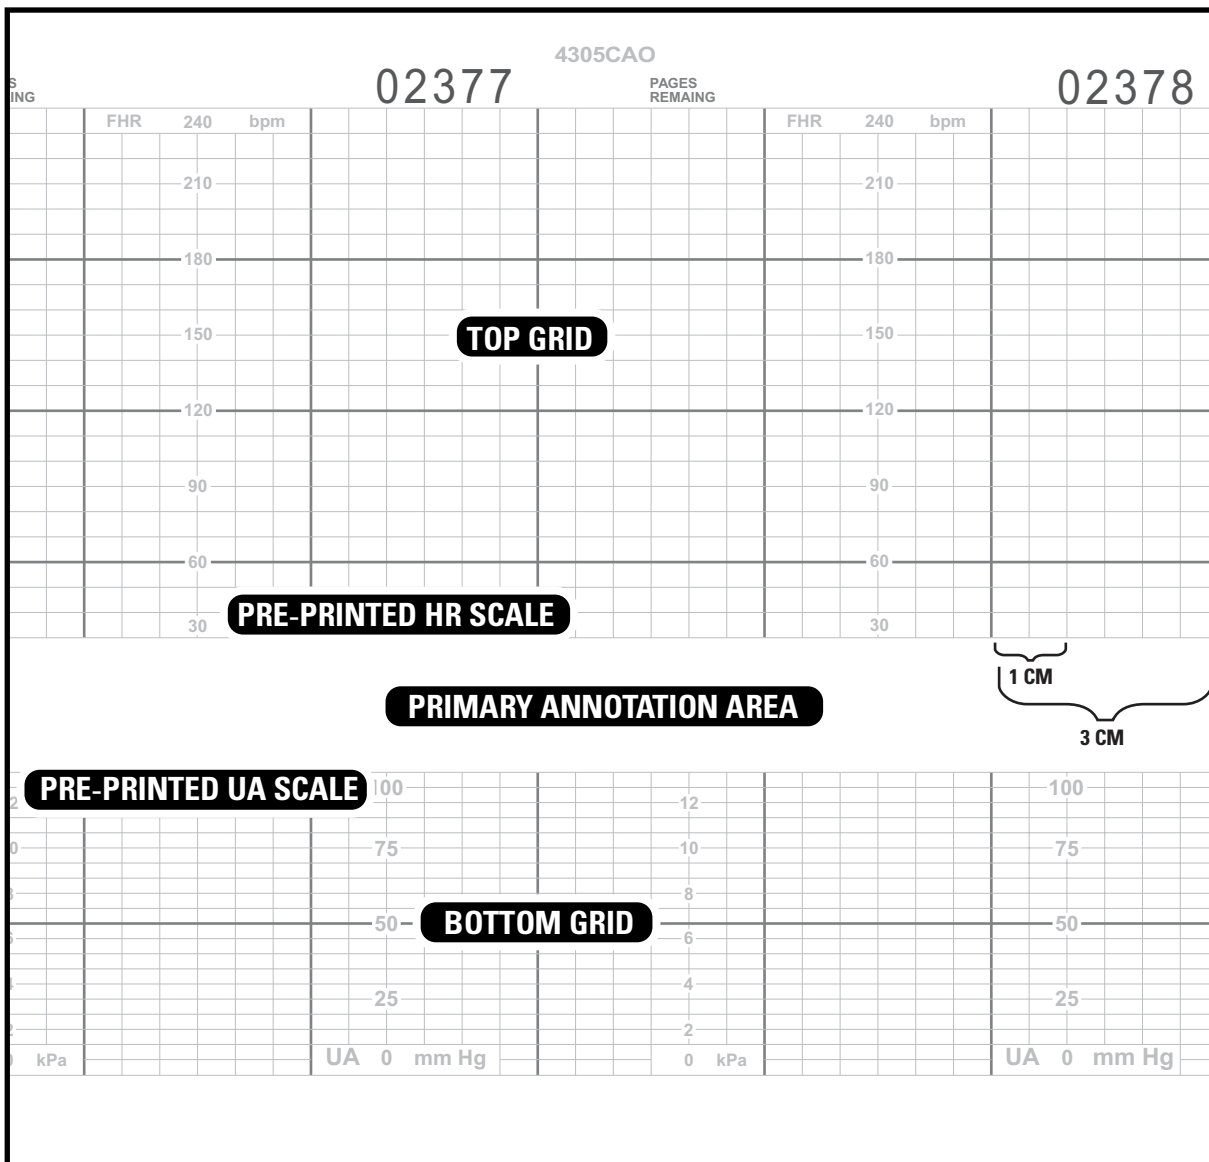
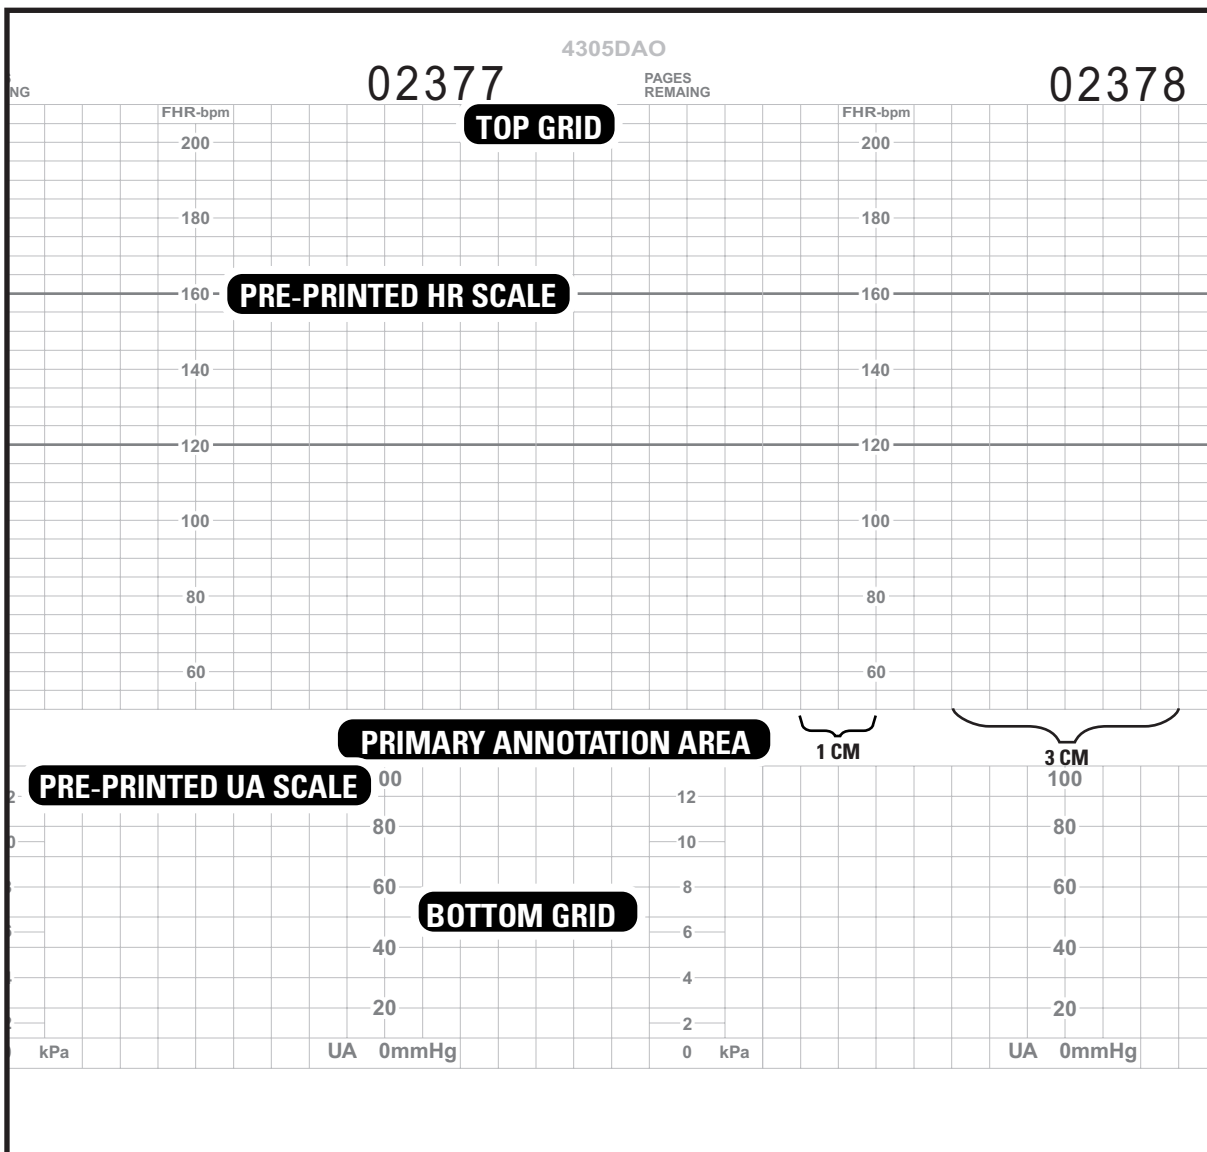

Figure 7-1. Strip Chart Paper with 30–240 BPM Heart Rate Scale
Figure 7-2. Strip Chart Paper with 50–210 BPM Heart Rate Scale
- z-fold chart paper with pre-printed 30–240 BPM heart rate scale (Refer to Figure 7-1.)
- z-fold chart paper with pre-printed 50–210 BPM heart rate scale (Refer to Figure 7-2.)
In the United States of America, the most common grid is the 30–240 BPM scale with the recorder speed set at 3 cm/min. As shown in Figure 7-1, a dark line is printed every 3 cm/min, which represents 1 minute in time at a speed of 3 cm/min. The uterine activity scale is also pre-printed from 0–100 mmHg; this same scale is used for relative units.
In other countries, the most common grid may be the 50–210 BPM scale with the recorder speed set at 1 cm/min. As shown in Figure 7-2, every other vertical line measures 1 cm, or 1 minute in time at a speed of 1 cm/min. The uterine activity scale is also pre-printed from 0–100 mmHg; this same scale is used for relative units.
Figure 7-1 and Figure 7-2 also call out the top grid, bottom grid, and the annotation area for each style paper. Note, one style paper has a larger annotation area than the other.